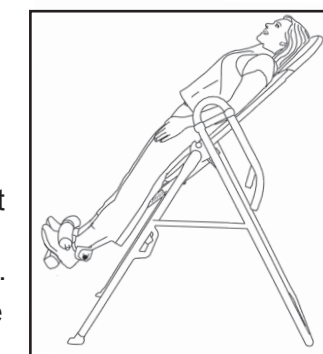

Figure 8
- Pull the locking pin out to allow the front ankle clamps to snap closed against your ankles (Figure 8). Make sure your pant legs do not interfere with obtaining a secure closure.
3. if the table comes to rest with your feet lifted a few inches off the A-frame, then you have found the correct balance setting (Figure 8).